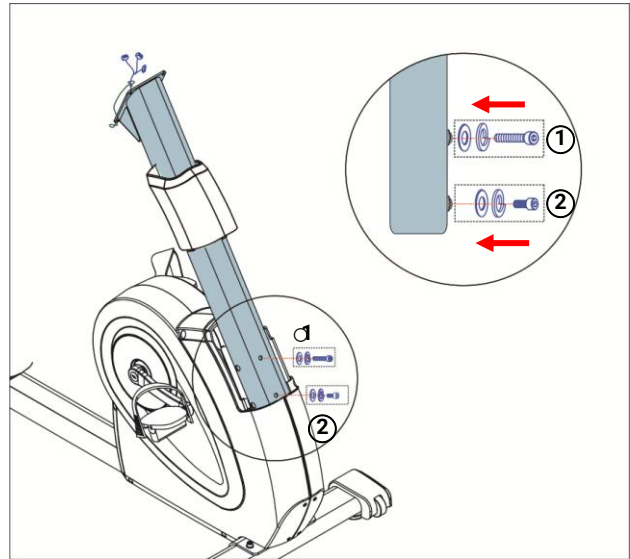

Fig 2.5-5A
- 1) Tighten (1) M8 x 70mm Screw, (1) M8 Washer and (1) M8 Flat Washer (Fig 2.5-5A, ①) with 6 mm Allen Wrench.
- 2) Tighten (1) M8 x 20mm Screw, (1) M8 Washer and (1) M8 Flat Washer (Fig 2.5-5A, ②) with 6 mm Allen Wrench.